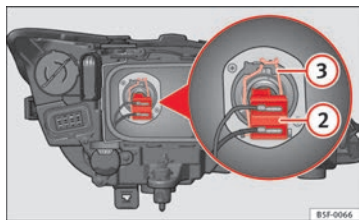

Fig. 134 Dipped beam headlights
- Remove connector ⇒ Fig. 134 ② from the bulb.
- Unclip the retainer spring ⇒ Fig. 134 ③ pressing inwards to the right.